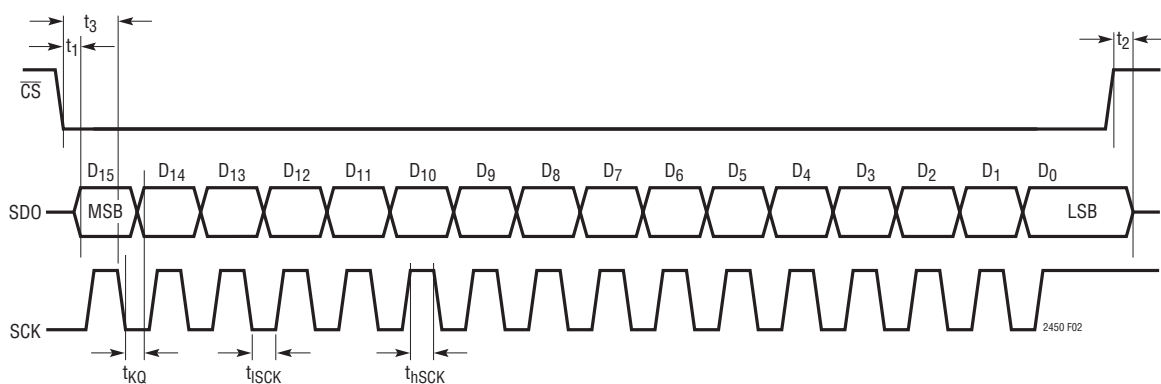

Figure 3. Data Output Timing
**Note 7:** See Figure 3.
Upon entering the DATA OUTPUT state, SDO outputs the most significant bit (D15) of the conversion result. During this state, the ADC shifts the conversion result serially through the SDO output pin under the control of the SCK input pin. There is no latency in generating this result and it corresponds to the last completed conversion. A new bit of data appears at the SDO pin following each falling edge detected at the SCK input pin. The user can reliably latch this data on every rising edge of the external serial clock signal driving the SCK pin (see Figure 3).
The LTC2450 generates a 16-bit direct binary encoded result. It is provided, MSB first, as a 16-bit serial stream through the SDO output pin under the control of the SCK input pin (see Figure 3).